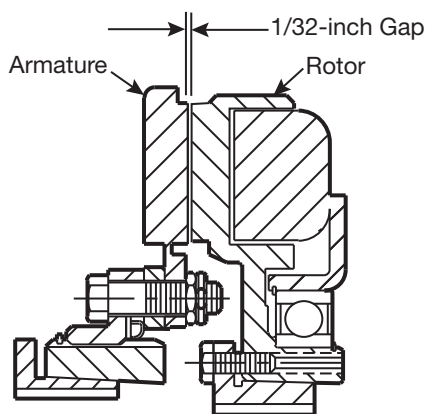

Figure 8
5. If the armature has been secured to the shaft first, adjust the rotor's position to allow a 1/32-inch gap between the two faces. (See Figure 8.)
4. When the assembly has been secured on the shaft, push the armature against the rotor face. When the armature is released, it will spring back about 1/32". (Figure 8)